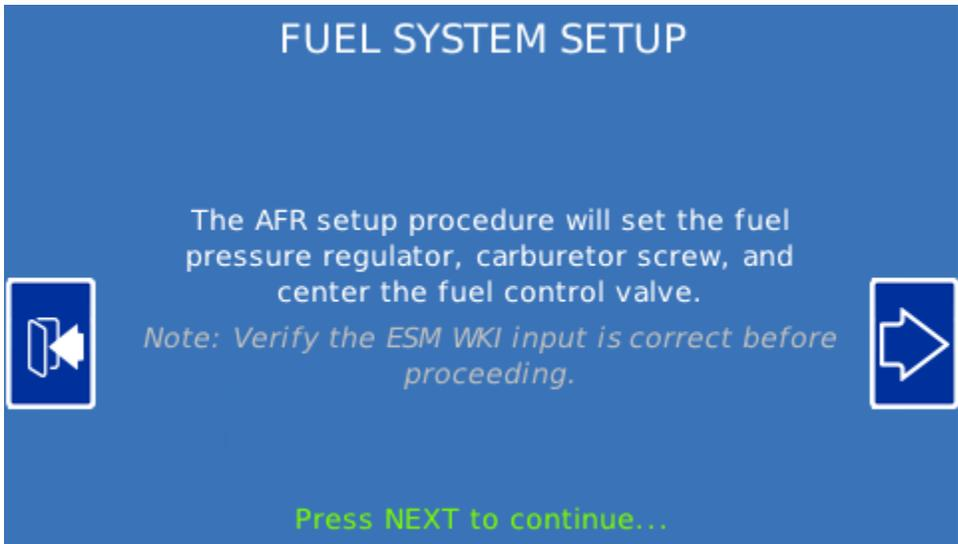

Figure 9-Fuel System Setup
6. Press the "Fuel System Setup" button. The screen in Figure 9 will appear. **Note:** It's important that the proper WKI of the engine fuel be entered in ESP and saved before proceeding.